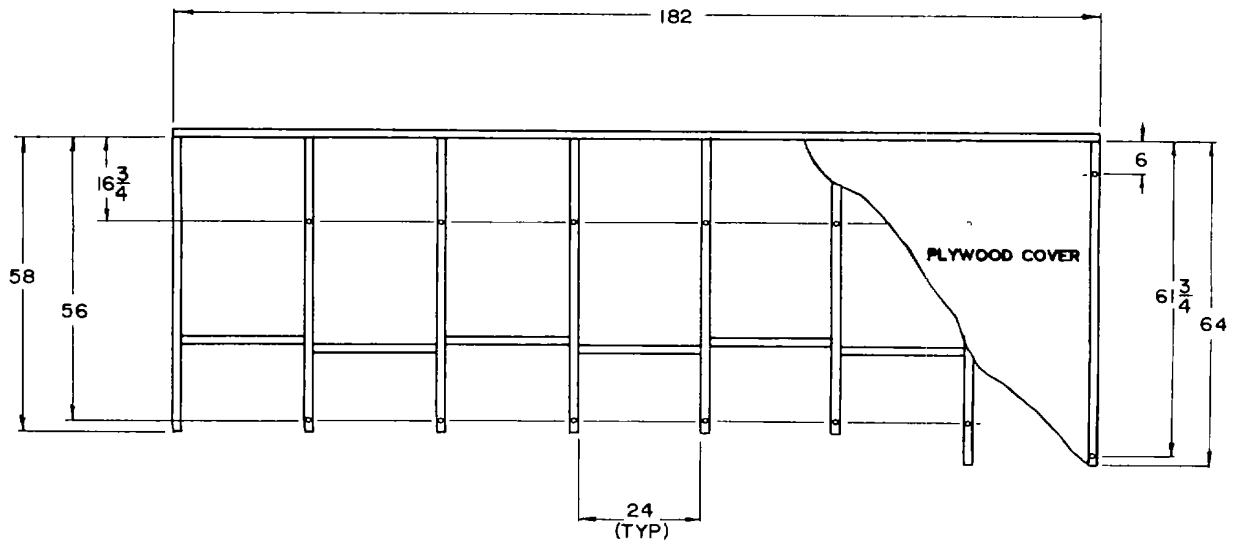

Figure B-2-2. Control Unit Frame.
<p>2 cont</p>	<p>(10) Place PPP-C-843 cushioning over relays and switches and secure with MIL-T-22085 tape. PPP-T-60 tape may be used as a substitute.</p> <p>(11) Fabricate frame in accordance with figure B-2-2. Refer to table B-2-2 for list of materials. Drill holes to enable securing frame to control unit with FF-B-584 bolts and FF-W-92 washers.</p> <p>(12) Cover frame where it comes in contact with the control unit with MIL-B-121 barrier.</p> <p>(13) Secure frame to control unit with 3/9 x 5-1/2 NC FF-B-584 bolts and FF-W-92 flat washers.</p> <p>(14) Preserve and pack batteries as follows:</p> <p>(a) Fabricate a PPP-B-601 box (57-1/2 x 22-1/2 x 12) for the batteries in accordance with appendix D-1. Refer to table B-2-3 for list of materials. Line box with MIL-B-121 barrier.</p> <p>(b) Coat battery posts with MIL-S-8660 silicone. Place each battery into a PPP-B-636 fiberboard box (10-3/4 x 10-3/4 x 9).</p> <p>(c) Place 10 dry-charged batteries into PPP-B-601 box.</p> <p>(d) Secure box to battery rack with QQ-S-781 steel strapping, edge protectors, and seals.</p> <p>d. Arc Chutes (2000 KW).</p> <p>(1) Fabricate PPP-B-601 boxes (37-3/4 x 21 x 32) for the arc chutes in accordance with appendix D-1. Refer to table B-2-4 for list of materials.</p> <p>(2) Wrap the arc chutes with PPP-C-843 cushioning.</p> <p>(3) Place three arc chutes into the box.</p> <p>(4) Isolate the arc chutes from the sides of the box and each other by using MM-L-751 (21 x 2 x 4) lumber and seal the box.</p> <p>e. Packing for the Control Unit.</p> <p>(1) Fabricate a MIL-C-104 crate (252-1/2 x 81 x 93-1/2) in accordance with appendix D-3. Refer to table B-2-5 for a list of materials.</p>